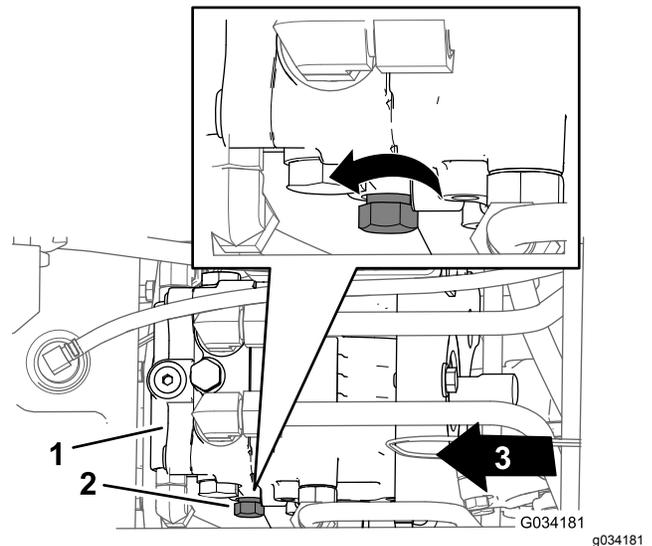

Figure 32
2. Locate the control knob for the bypass valve at the left side of the hydraulic pump (Figure 32).
3. Rotate the control knob 3 turns counterclockwise (Figure 32).
3. Rotate the control knob (Figure 32) clockwise until you feel resistance, which indicates that the bypass valve is closed.